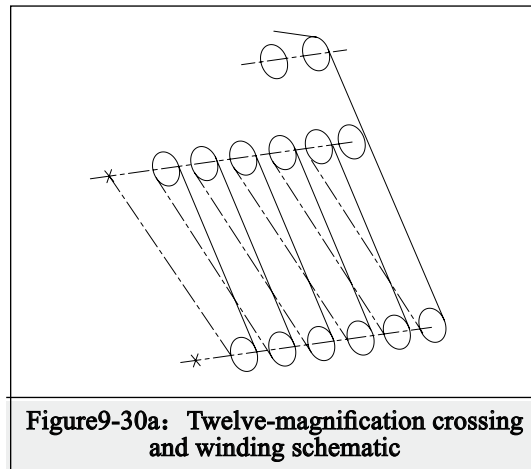

Figure9-30a: Twelve-magnification crossing and winding schematic
1. When lift weight with a twelve magnification, cross and wind steel wire rope according to the method as shown in Figure9-30a.